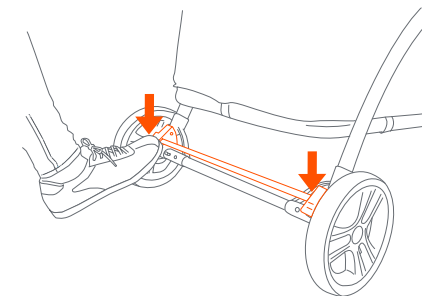

Fig. 12a
12) • To engage brakes, apply light downward pressure to the brake levers of the rear axle. The stroller may require slight forward or rearward movement in order to line up the teeth on the brake with each wheel brake cluster (Fig. 12a).